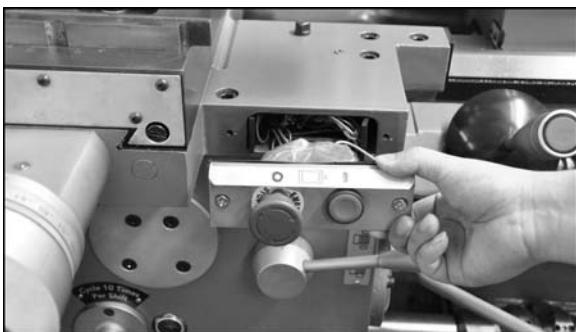

Figure 18 – Rapid feed motor wire access
2. **Rapid Feed Motor:** Remove the control panel on the saddle (Figure 18) to rewire the rapid feed motor. Change the leads according to the wiring diagram in sect. 17.0. It is not necessary to pull out the rapid feed motor for voltage conversion.